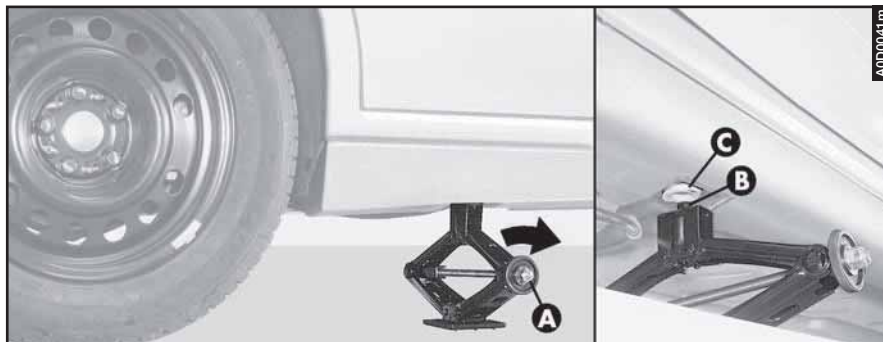

fig. 7
– Turn the knob (**A-fig. 7**) of the jack to extend it until the pin (**B**), on the on the upper part of the jack inserts correctly in the seat on the body (**C**).
– Turn the knob (**A-fig. 7**) of the jack to extend it until the pin (**B**), on the upper part of the jack inserts correctly in the seat on the body (**C**).